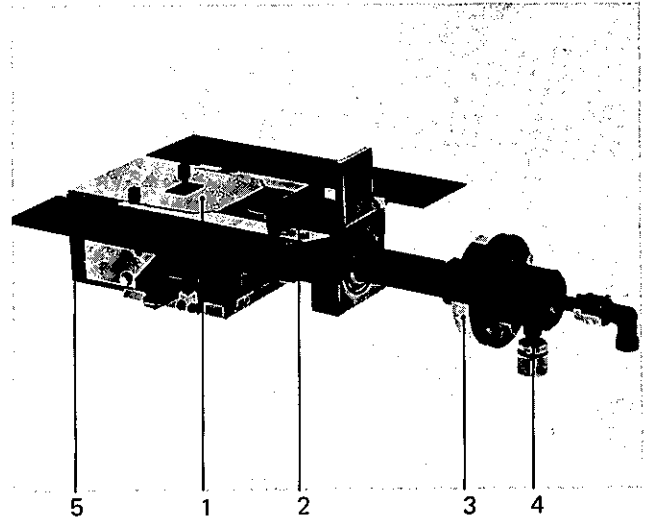
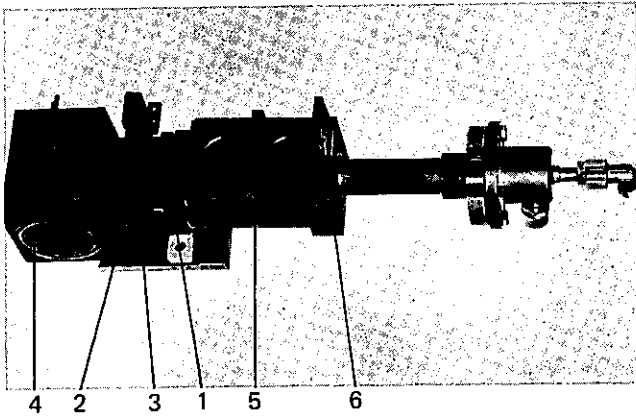

Fig. 3 UHV electron beam evaporation source ESQ 300 U
Fig. 9 Mounting the cathode block, anode and coil
- g. Screw the molybdenum web (Fig. 9, item 5) to the crucible block
- d. Push the cathode block with gauge (Fig. 9, item 3) towards the anode (Fig. 9, item 2) and attach it to the base plate with the two socket head screws. Screw the screens (Fig. 3, item 5) for the flat insulator to the base plate.